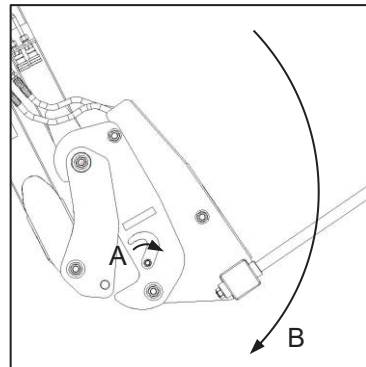

Fig. 6
- ✔ With the safety latches retracted (Fig. 6-A), lower the attachment on to the lower support bar (Fig. 6-B).
- ✔ Met die veiligheidsknippe teruggetrek (Fig. 6-A), laat die hegstuk tot op die onderste steunbalk sak (Fig. 6-B).